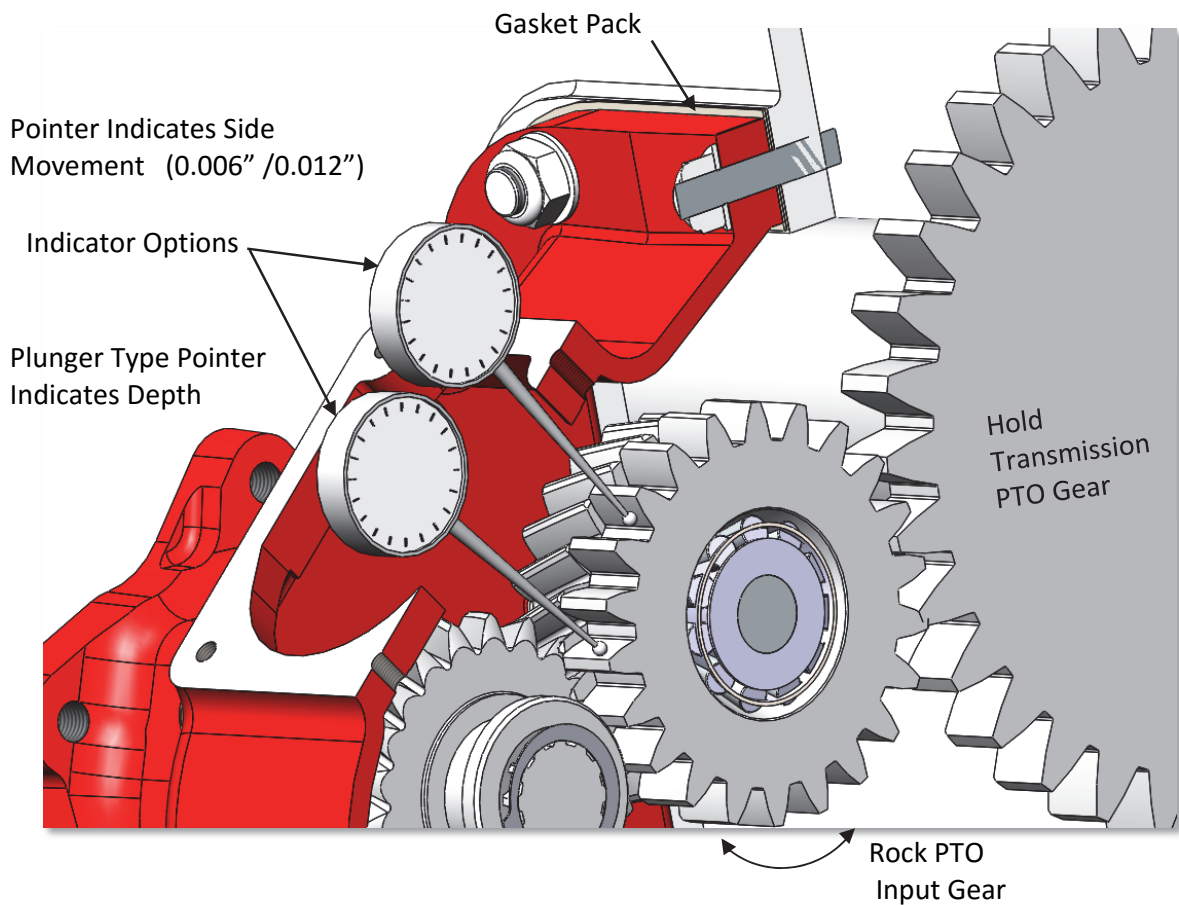

Fig. 7.
2. Mount the dial indicator on the body of the PTO or the body of the transmission so it measures the movement of the PTO input gear. See Figure 7 for the proper location of the dial indicator contact point. Two common type dial indicators shown.